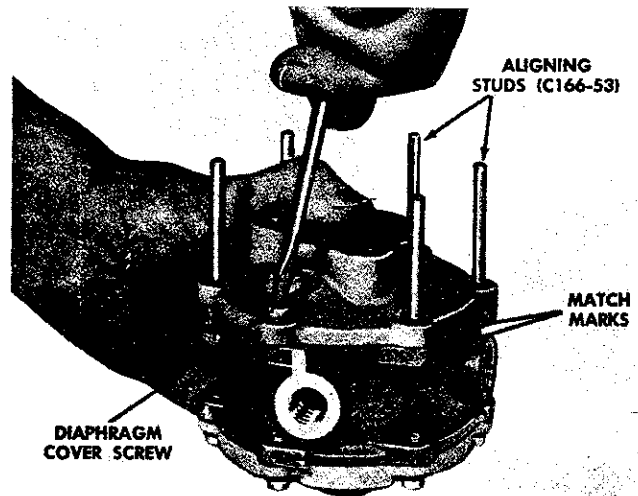

FIGURE 23
18. Depress diaphragm cover all the way, remove one aligning stud, and replace it with an assembly screw, tighten screw moderately tight. Figure 23.